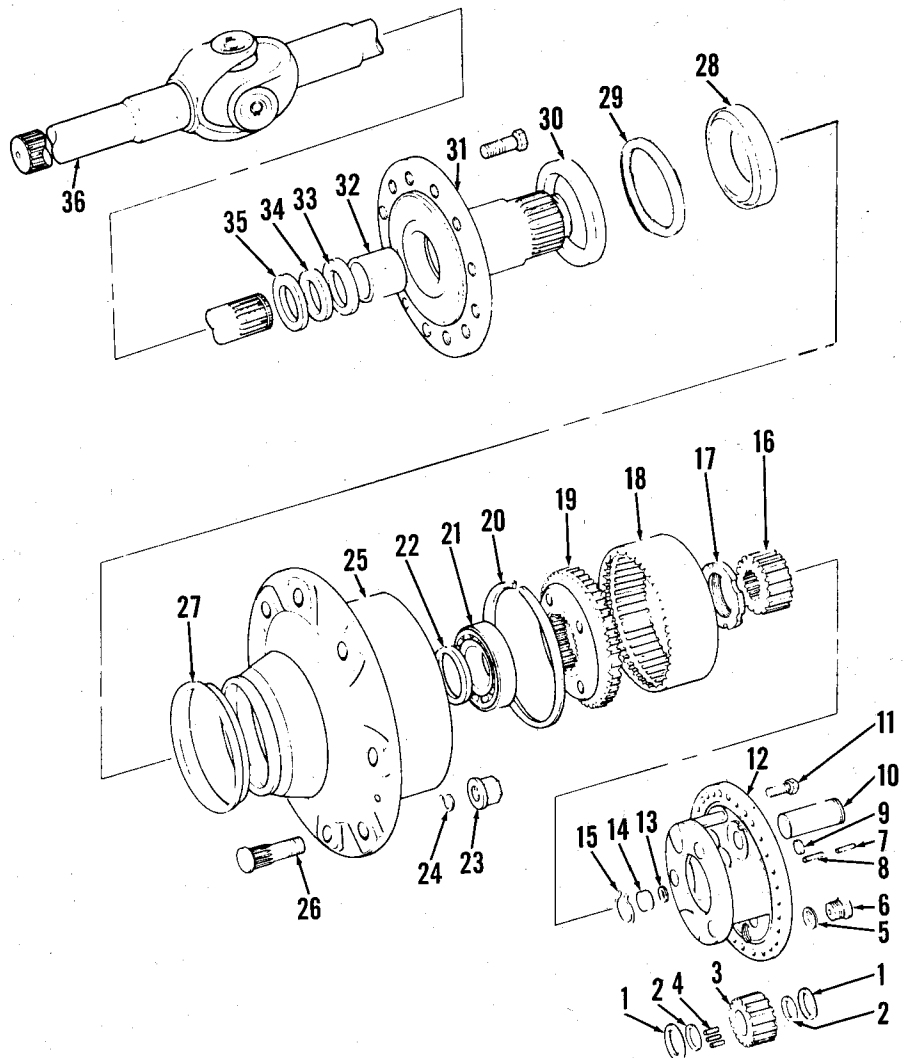

Fig. 48—Exploded view of hub, carrier and planetary drive used in models equipped with front wheel drive. Washer (29) is used in TW-30 models only.
(25—Fig. 48) and planetary assembly (12), raise tractor and remove wheel on side requiring service. Drain oil in hub (25) and scribe alignment marks on planetary carrier (12) and hub (25). Remove retaining bolts (11) and remove carrier (12). Detach snap-ring (15) and remove sun gear (16).
47. OVERHAUL. Unscrew slotted nut (17—Fig. 48) and remove planetary ring gear (18) and carrier (19) from hub
(25). Remove snap ring (20) from planetary ring gear (18) and remove ring gear carrier (19). Pull hub and bearing assembly (25) carefully off hub carrier (31).
On 8700, 9700, TW-10 and TW-20 models, extract shim (22) from hub carrier. Remove bolts securing hub carrier (31) to steering knuckle and remove carrier. Axle shaft (36) may now be removed from housing. Disassemble planetary carrier (12), inspect components and renew as necessary. Remove oil seal (30), spacer (29—on TW-30 models only), inner bearing (28) cone and dust seal (27) from hub if damaged or worn excessively. If damage or excessive wear is apparent, renew bushing (32) and oil seal (33) using suitable tools. Insert axle shaft (36) into axle housing (11—Fig. 47), then install hub carrier (31—Fig. 48) and secure to steering knuckle (20—Fig. 47) with hex head bolts. Tighten bolts to a torque of 155 ft.-lbs.
Install bearing (21 and 28—Fig. 48) cups in hub (25) and bearing (28) cone to inboard side of hub (25). On TW-30 models, install washer (29), then on all models install seals (27 and 30). Install hub (25) on hub carrier (31) so carrier contacts hub.
48. Hub roller bearings (21 and 28—Fig. 48) are preloaded by turning slotted nut (17). Refer to Fig. 49 and measure rolling resistance of hub roller bearings. Wrap a strong cord around wheel stud and hub, then attach a pull scale (S) to cord. Pull scale and note reading as hub rotates. Nut (17) is properly tightened when pulling resistance is between 9-14 lbs. If original bearings are used, reading may be 4.5-7 lbs.
NOTE: If slotted nut (17) locks before proper pulling resistance is obtained on Models 8700, 9700, TW-10 and TW-20, it will be necessary to replace shim (22—Fig. 48). Shim (22) is available in metric sizes from 5.2 to 5.4 mm. On Model TW-30, install a lockwasher and a second slotted nut (17) to serve as a locknut. Bend lockwasher tabs to engage both nuts.
Install sun gear (16) on axle shaft (36) and secure with snap ring (15). To check axle shaft (36) end play, push axle shaft inward. While shaft is being turned by an assistant, turn hub (25) to left and right steering lock positions. With wheel at full lock position, refer to Fig. 50 and measure depth of shaft end (36) from joint face of hub (25). Refer to Fig. 51 and using a similar setup, determine height of detent plug (14—Fig. 48) above joint face of carrier (12—Fig. 51). Subtract height of detent plug (14—Fig. 48) from previously measured depth of shaft end to obtain shaft end play. Drive out detent plug (14) and install shims (13) equal to measured shaft end play so end play will be zero with hub at full steering lock. Shims (13) are available in metric
49. **R&R AXLE SHAFTS.** To remove axle shafts (36—Fig. 48), refer to paragraph 46 and remove wheel hub and planetary assembly. Axle shaft can now be removed. Inspect bushings (19—Fig. 47 and 32—Fig. 48) and seals (18—Fig. 47 and 33—Fig. 48) and renew if necessary. To install axle shaft, reverse removal procedure. Refer to paragraph 48 to adjust axle shaft end play and hub bearing preload.
52. **REMOVE AND REINSTALL.** Remove front wheels, disconnect drive shaft from differential input flange and drain axle housing oil. Remove cap screws securing hub carriers (31—Fig. 48) to steering knuckles. Support hubs then pull hubs and front axle drive shafts out far enough to disengage drive shaft inner ends from differential side gears.